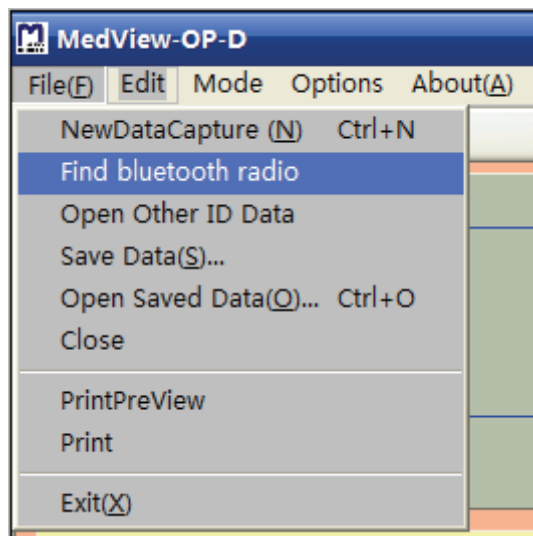
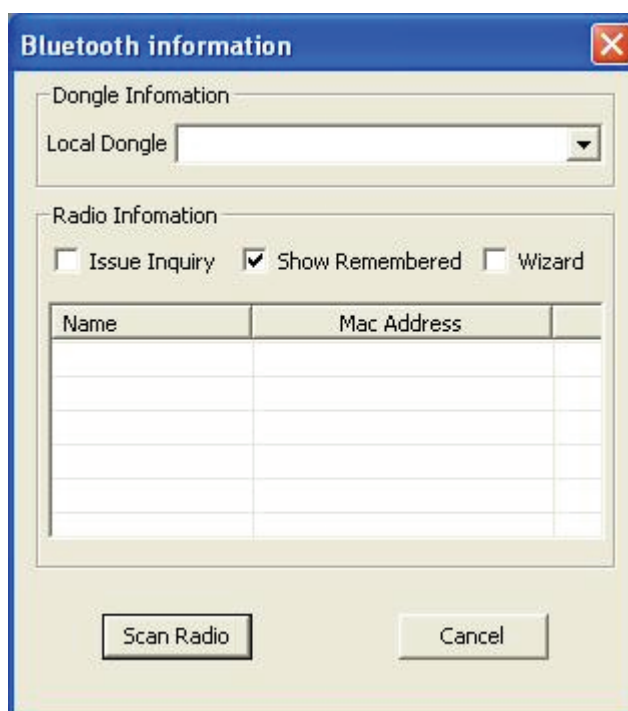
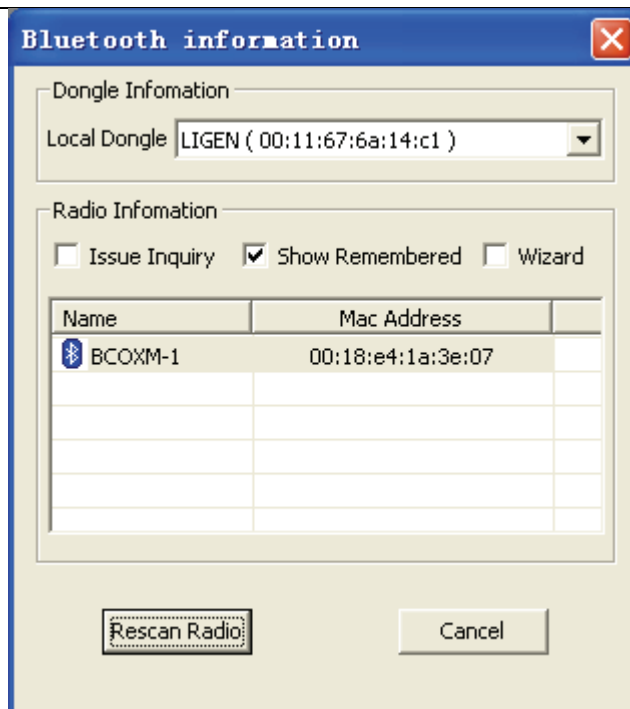

Figure 3-16
Figure 3-17
Figure 3-18
3.4.1 Click “Find Bluetooth® radio” from “File (F)” drop-down menu items as shown in Figure 3-16. The Bluetooth Information window appears, refer to Fig.3-17.
(1). Select “Show Remembered” in the interface as shown in Figure 3-17, then click “Scan Radio” or “Rescan Radio”, as shown in Figure 3-18.